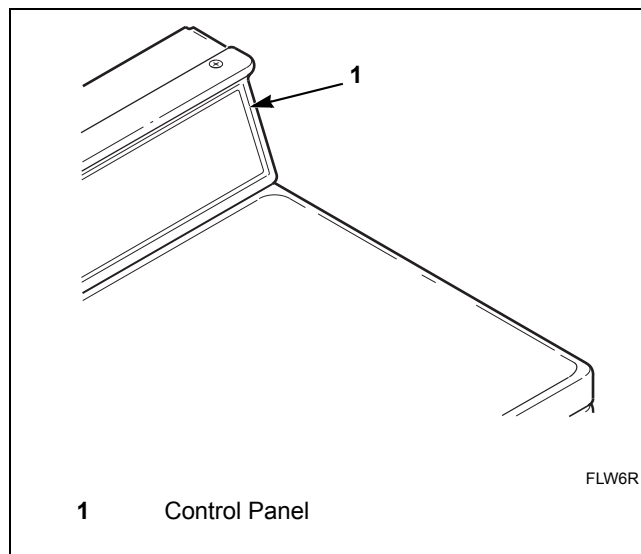

Figure 22
1. Open control panel. Refer to *Figure 22*.